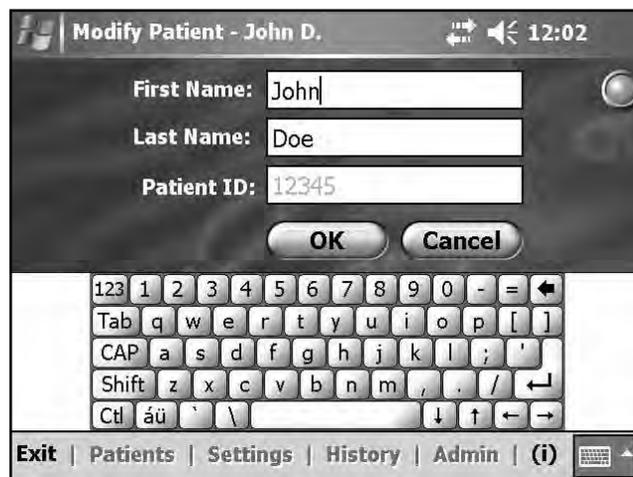

Figure 9-7: Modify Patient window.
2. The Modify Patient window will open. Modify the name and press **OK**. See Figure 9-7.